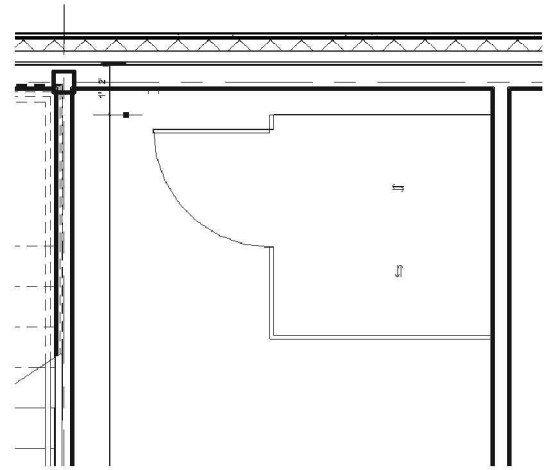

FIGURE 11-1.2 Accessible Toilet stall
9. **Place** the toilet stall as shown and then move it into place using the *Move* (or *Align*) tool and your snaps (Figure 11-1.2).